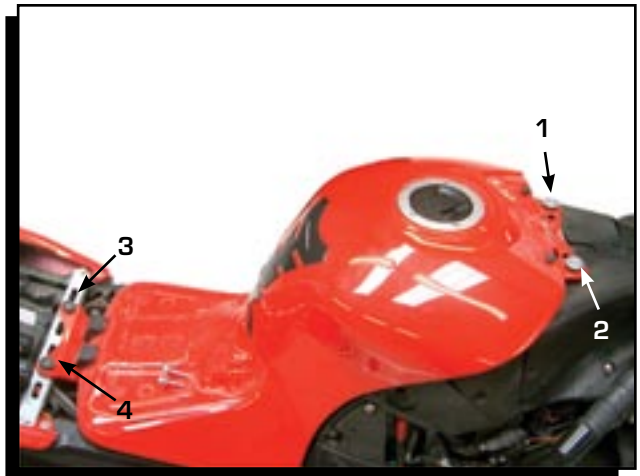

Figure 7 Prop the Gas Tank Up.
7. The front of the gas tank needs to be propped up to access wiring. Remove the four 10mm bolts (Figure 7). Note that the tank does not have to be removed. It can be propped up to gain access to the harness.